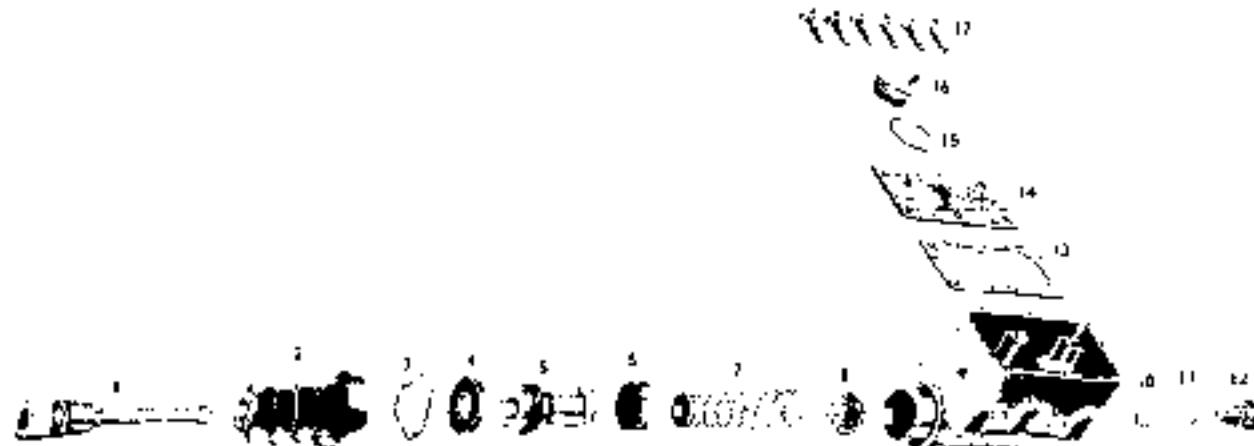

FIG. 373
To disassemble the unit, slip the large end of the boot (2, Fig. 373) from the groove of the master cylinder barrel (9); and remove the boot and push rod (1) assembly. Disassemble the boot and push rod assembly by lifting the small end of the boot from the groove in the push rod and then pulling the push rod from the boot.
Install the check valve (8, Fig. 373) on the return spring (7), and install in the cylinder bore. Place the primary cup (6) and piston assembly (5) in the master cylinder bore and install the piston stop (4) and piston stop lock wire (3). Be sure that the lock wire is well seated in the groove. Install the boot (2) or the push rod (1) and install the assembly on the master cylinder. Install the filler plug (16) and gasket (15). Install the outlet fitting bolt (12) and gaskets (10 and 11), and if equipped with a hill holder, install the hill holder on the master cylinder.